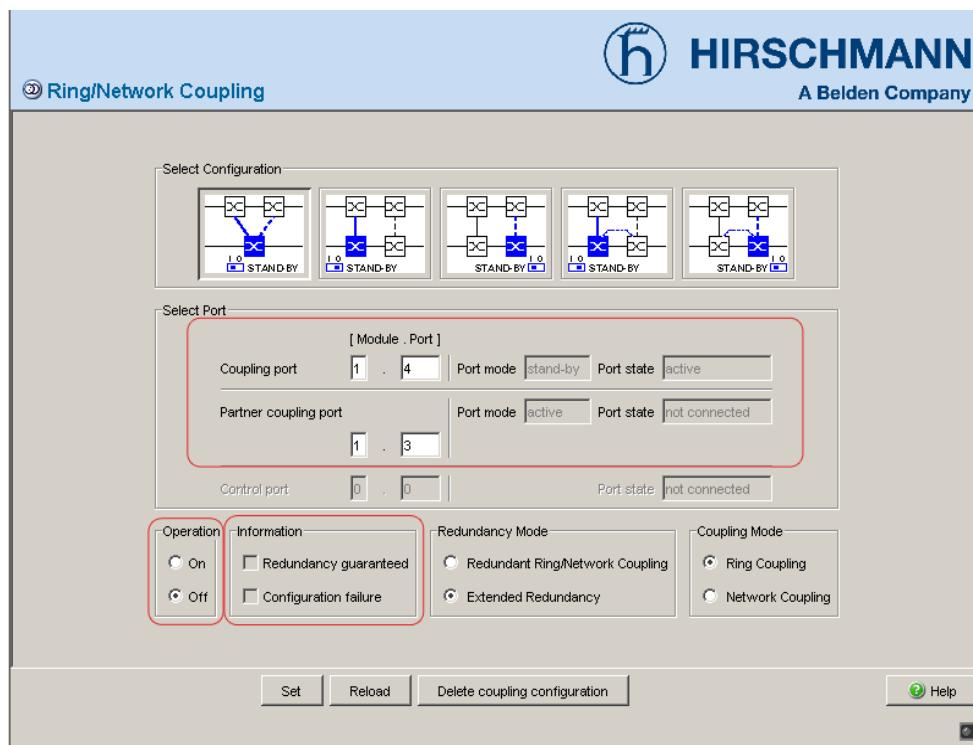

Figure 9: Selecting the port and enabling/disabling operation
- Select the partner coupling port (see fig. 9), (see table 7).
Select the coupling port (see fig. 9), (see table 8).
The displays in the “Select port” frame mean (see fig. 9):
The displays in the “Information” frame mean (see fig. 9):